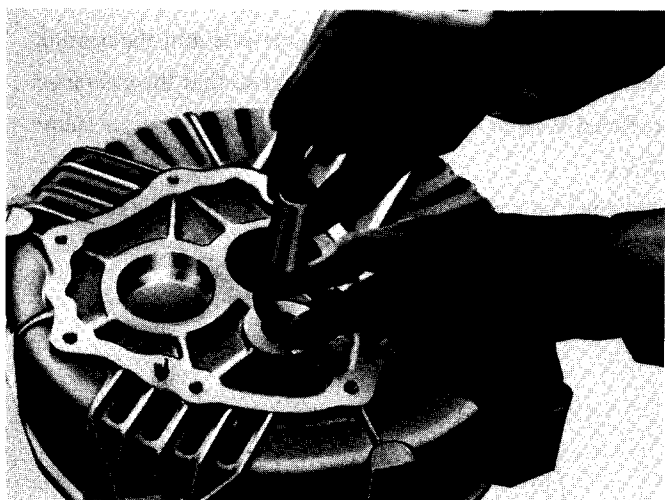

Fig. 12-6
- d) Set the shaft B with the thrust washer in the adaptor. (See Fig. 12-6.)